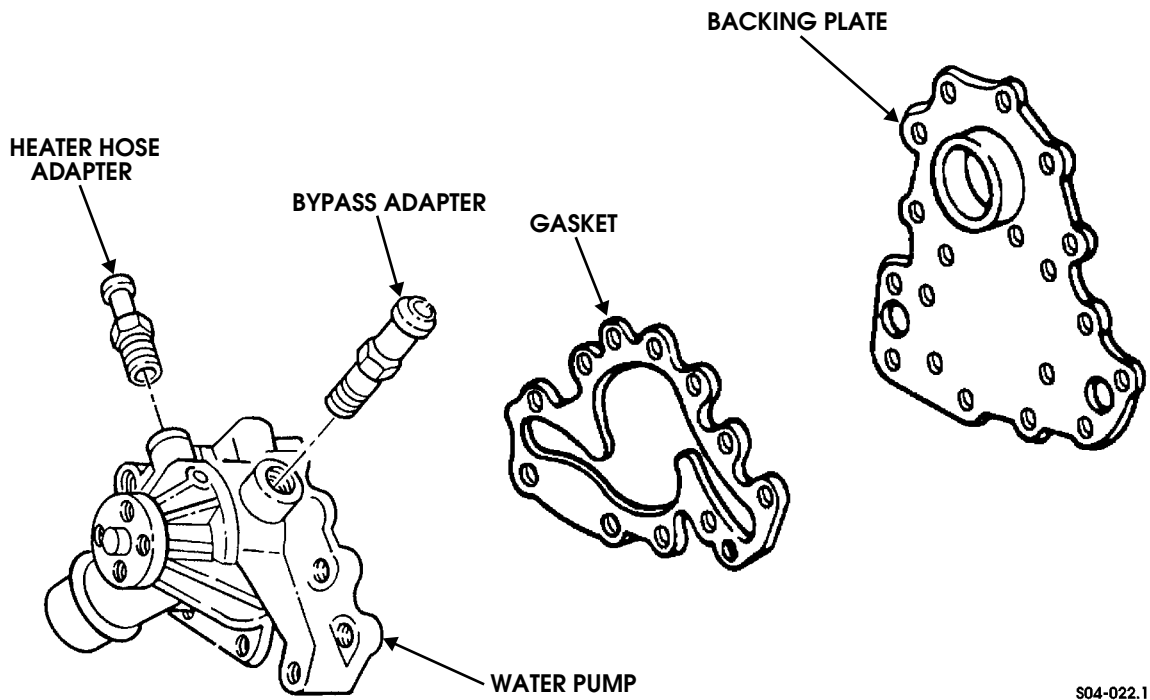

Figure 4-28: Water Pump (All Diesel Models)
9. Remove water pump and gasket from plate (Figure 4-28).